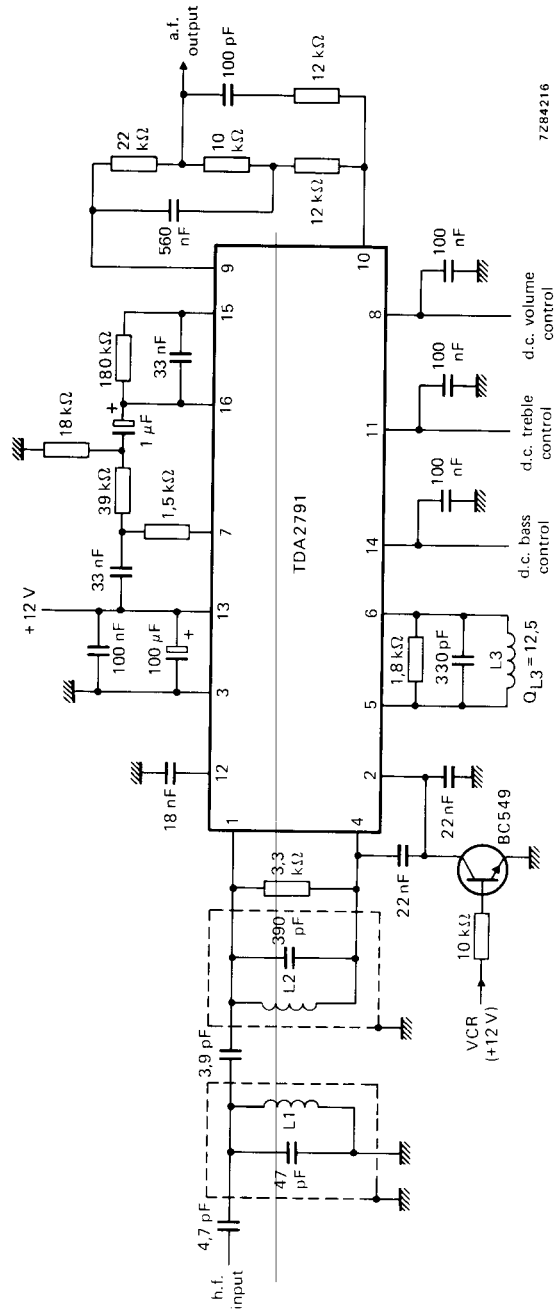

Fig. 9 Application circuit diagram.
CHARACTERISTICSMeasured in Fig. 9 at $T_{amb} = 25$ $^{\circ}C$; $V_{13-3} = 12$ V; $f = 5,5$ MHz (unless otherwise specified)
(1) This is actually the a.f. output voltage as shown in Fig. 9.